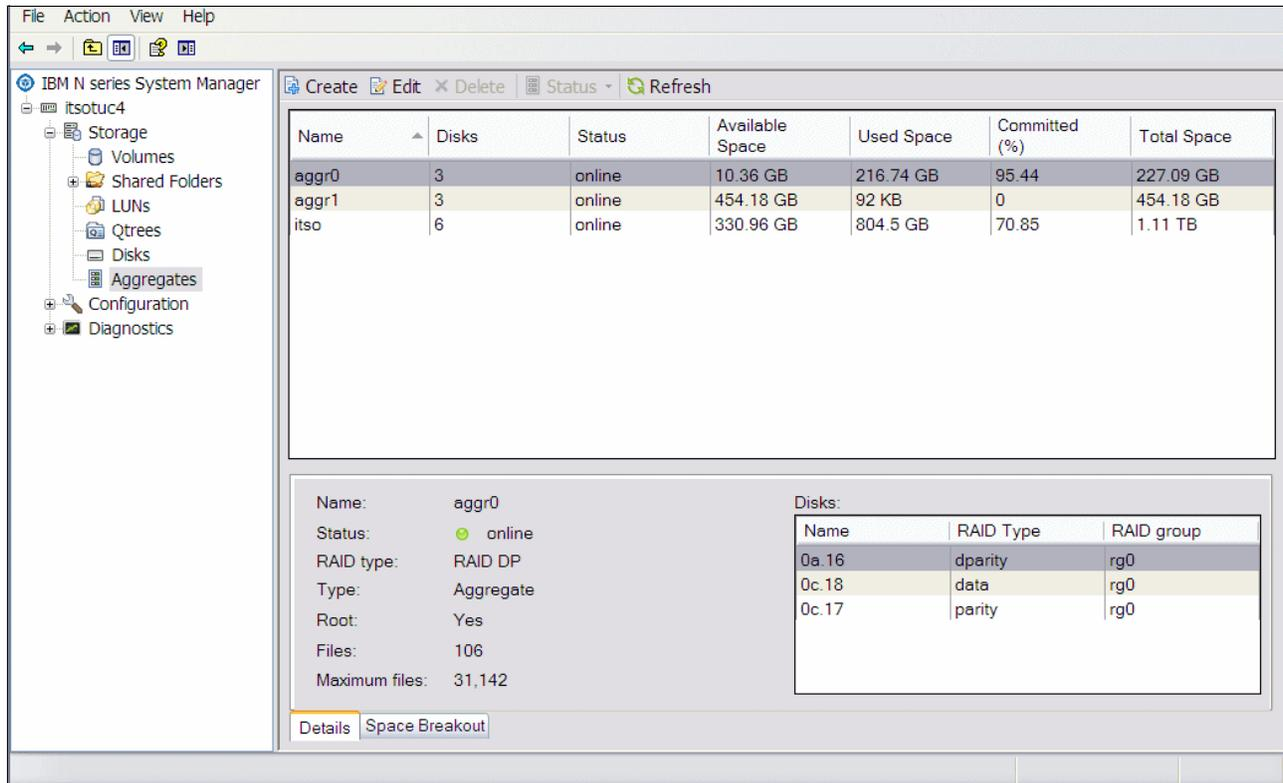

Figure 7-10 Aggregate properties
- You can close both the wizard menu in the System Manager and the FilerView at this point. The task of creating the aggregate, which might take a long time, will continue in the background. Later you can open the System Manager and check the updated configuration; the new resource will eventually show as “online” in the aggregate panel (Figure 7-10). Click the **Details** button at the bottom of the screen to check the aggregate properties and the disks that the system has selected to define the aggregate. Click the **Space Breakout** button to view details about the resources belonging to the aggregate.